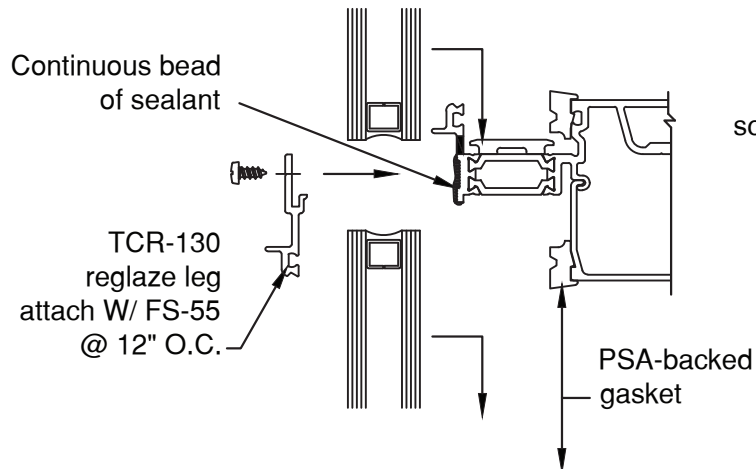

Figure 35
- D.6 Install TCR-130 reglaze leg. Set in continuous bead of sealant and attach with FS-55 fastener @ 12" o.c., cap seal all fasteners. **SEE FIGURES 35 & 36**